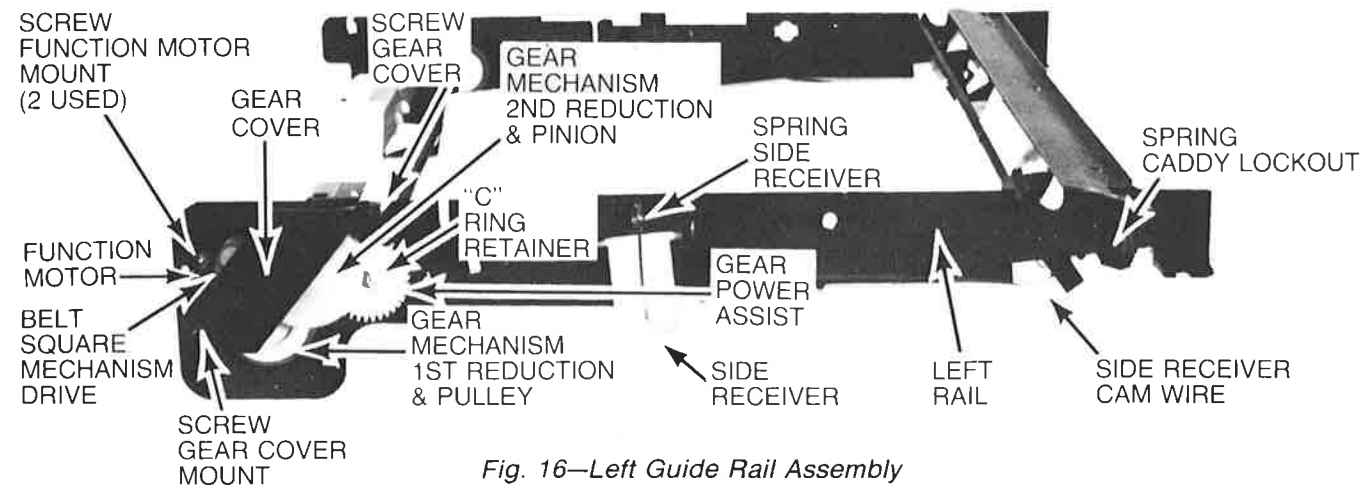
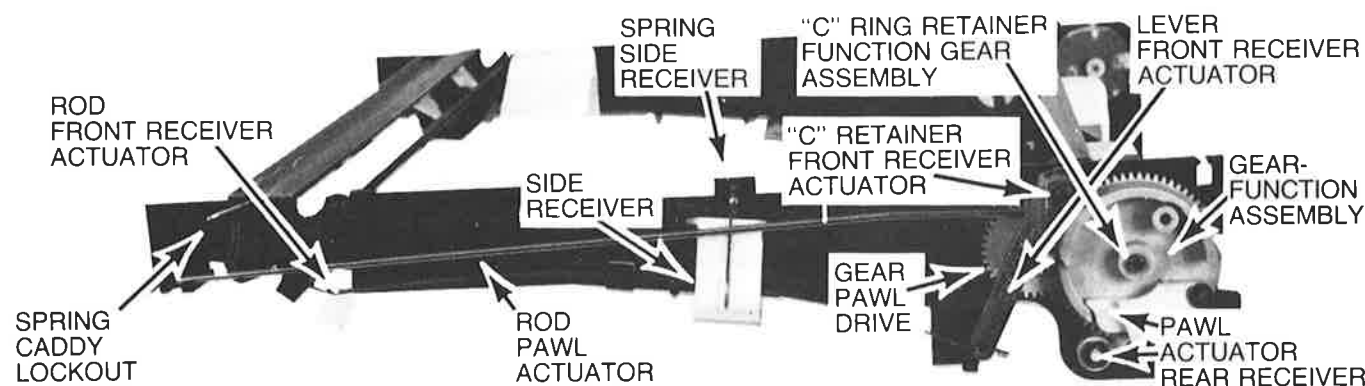

Fig. 16—Left Guide Rail Assembly
Fig. 17—Right Guide Rail Assembly
2. Remove two (2) posi-drive (+ head) screws and remove gear cover Fig. 16.
3. Remove square drive belt Fig. 16.
4. Remove two (2) small posi-drive (+ head) screws and remove function motor.
1. With guide rail assembly removed from player—remove retaining rings from function gear and receiver actuator (Fig. 17).
2. Release front receiver activating rod (Fig. 17) held captive by plastic tab on right rail assembly.
5. Remove receiver actuator rod (Fig. 17) from right rail assembly and side receiver wire cam (Fig. 16) from left rail.
6. Remove retaining ring holding pawl drive gear (Fig. 17) captive—remove pawl drive gear.
7. Remove retaining ring holding the power assist gear (Fig. 17) captive. Remove power assist gear.
8. Remove lock out springs (Figs. 16 & 17) right and left sides. Remove caddy lockouts (Figs. 16 & 17).
1. With cabinet top, receiver spindle assembly and guide rail bracket removed—use thumb to rotate mechanism drive 2nd reduction gear (Fig. 16) in direction necessary to place mechanism in "PLAY" mode while holding AC switch (S2) actuator (Item 47, Fig. 47) back out of the way.